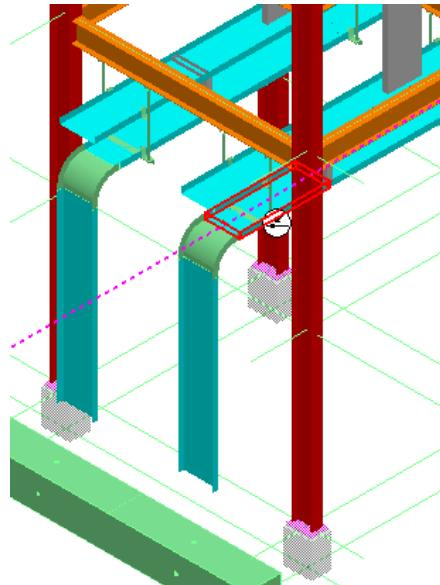

Figure 39: Selected Cableway Feature
19. Select the **Cableway Straight Feature** from the bottom cable tray, as shown in Figure 39.